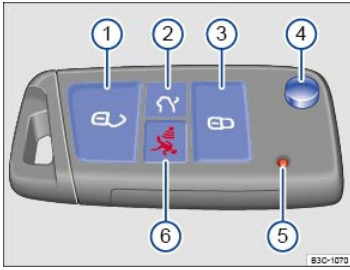
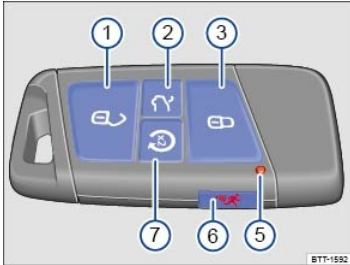

Fig. 47 Remote control vehicle key with panic button (vehicles without Remote Start).
Fig. 48 Remote control vehicle key with panic button (vehicles with Remote Start).
Key to ⇒ Fig. 47 and ⇒ Fig. 48 :
Depending on equipment, pressing the  button ⇒ Fig. 48⑦ two times after pressing the  button ⇒ Fig. 48③ activates the remote start feature if certain requirements are met ⇒ *Remote start feature*.